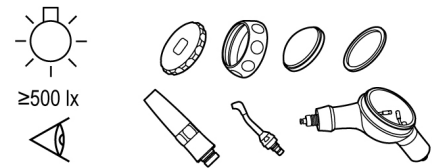

Fig. 28
3. Under appropriate lighting (500 lx or higher), inspect the products for contamination (Fig. 28).